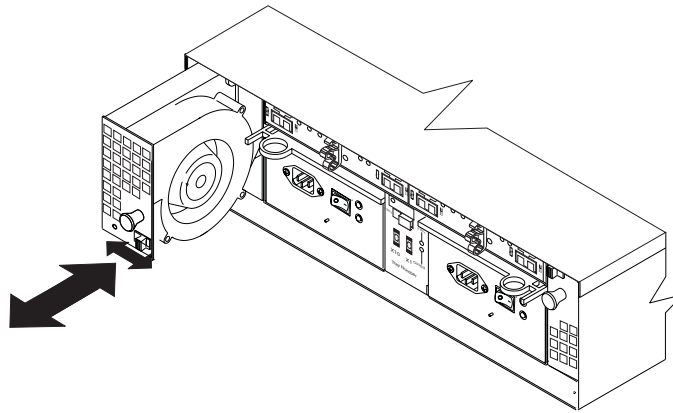

Figure 15. Removing a fan unit
2. Grasp the handle and pull the fan unit out of the bay, as shown in Figure 15.